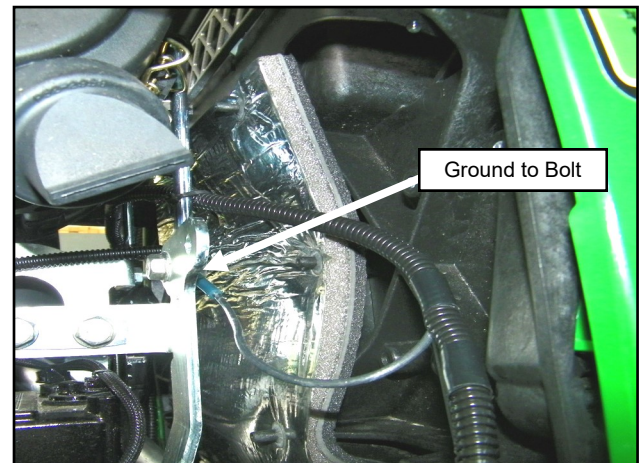

Fig. 13.8 (Wire Harness Ground to Bracket)
- 13.8** Unbolt the nut and bolt at the back of the engine and re-secure with the ground terminal on. See Figure 13.8.